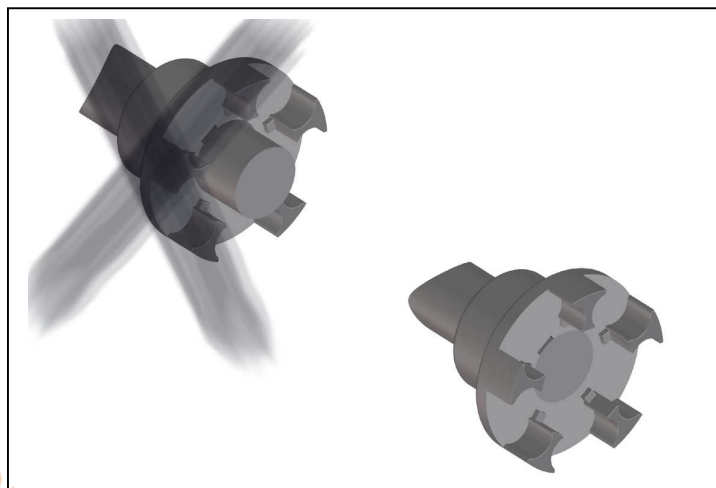

Fig. 4
- Mount the hubs in such a manner that the shaft end is flush with the inner bore openings (Fig. 4). Observe deviant agreements, which may exist!